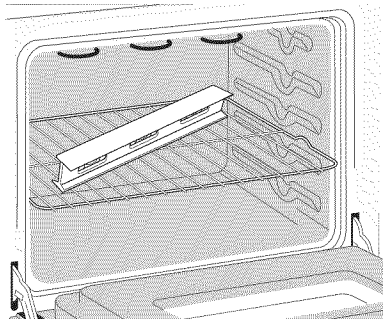

Fig 23
5. Use a level to check your adjustments (Fig. 23).